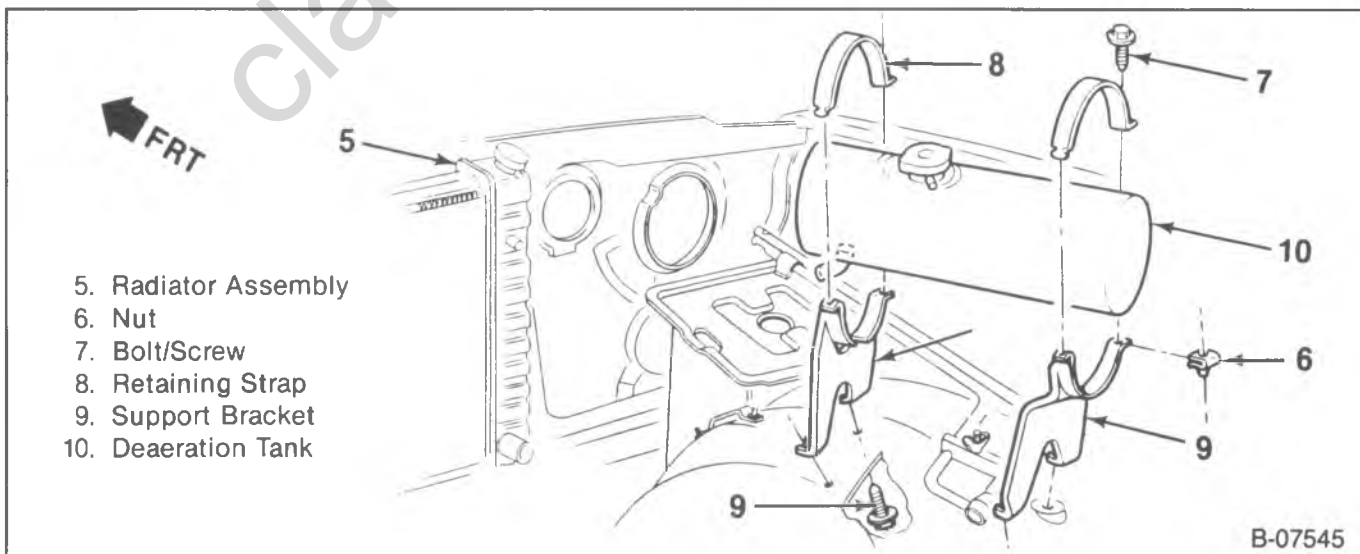

Figure 7—R/V - Deaeration Tank Installation
↔ Remove or Disconnect (Figures 7, 8 and 9)
- For the G series vehicle; bolts/screws (7) and nut (6) (figure 7).
- The deaeration tank (10) is free of the vehicle.
↔ Install or Connect (Figures 7, 8 and 9)